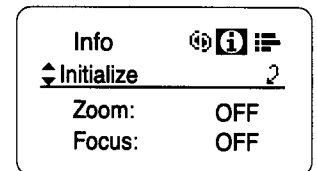

Fig7-4
3. Move the down key twice, and then press the Set key. The display is switched to the Initialize screen. (Fig. 7-4)